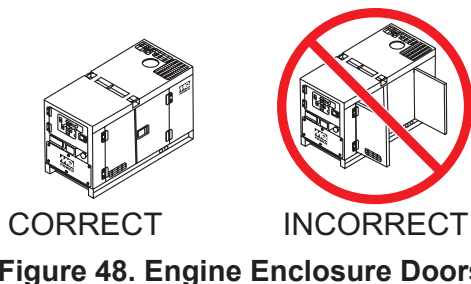

Figure 48. Engine Enclosure Doors
5. Close all engine enclosure doors (Figure 48).